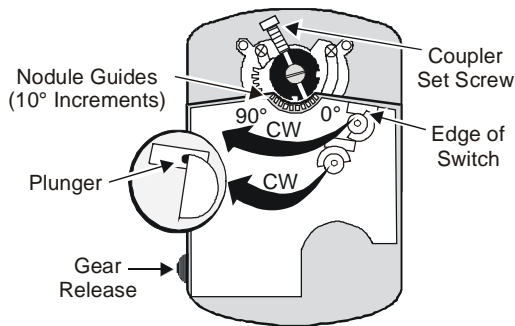

Figure 13: Switch Angle Settings
To change the angle of Switch S1 to 20°, refer to Figure 13 and proceed as follows:
2. Rotate Switch S1 CW, and align the edge of the switch with the plunger until the plunger rises. (See Figure 13.)
To change the angle of Switch S2 to 70°, refer to Figure 13 and proceed as follows:
2. Rotate Switch S2 CW, and align the edge of the switch with the plunger until the plunger rises. (See Figure 13.)